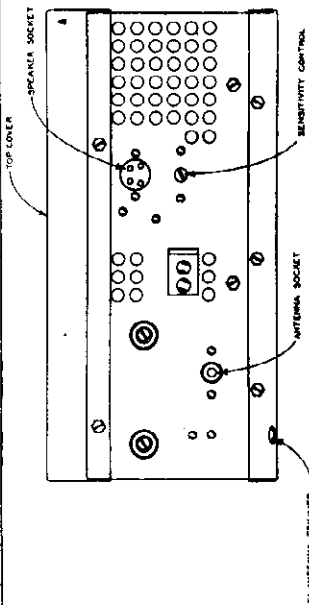

FIG. 4 BACK VIEW OF SET
Note: The Model 6FLD is equipped with an adjustable sensitivity control located in the position indicated in Fig. 4. This control is properly adjusted at the factory to provide a sensitivity of 7 microvolts at one watt output. The factory adjustment of this control provides as high a sensitivity level as possible without introducing excessive background noise. No attempt should be made to change the setting of the control unless laboratory equipment is available for measuring sensitivity.
1. Turn selector switch to "Manual Tuning" (D).
4. Adjust oscillator trimmer C-2C for maximum response. (See Fig. 4).
6. Adjust R-F trimmer C-2B (See Fig. 4) and the antenna trimmer C-39 (See Fig. 4) or maximum response.
Note: The Model 6F2D is equipped with an adjustable sensitivity control located in the position indicated in Fig. 4. This control is properly adjusted at the factory to provide a sensitivity of 6 microvolts at one watt output. The factory adjustment of this control provides as high a sensitivity level as possible without introducing excessive background noise. No attempt should be made to change the setting of the control unless laboratory equipment is available for measuring sensitivity.
3. Adjust the oscillator trimmer C-11, the RF trimmer C-7 and the antenna trimmer C-1 for maximum response, in the sequence given. (See Fig. 4 & 5 for trimmer locations.)